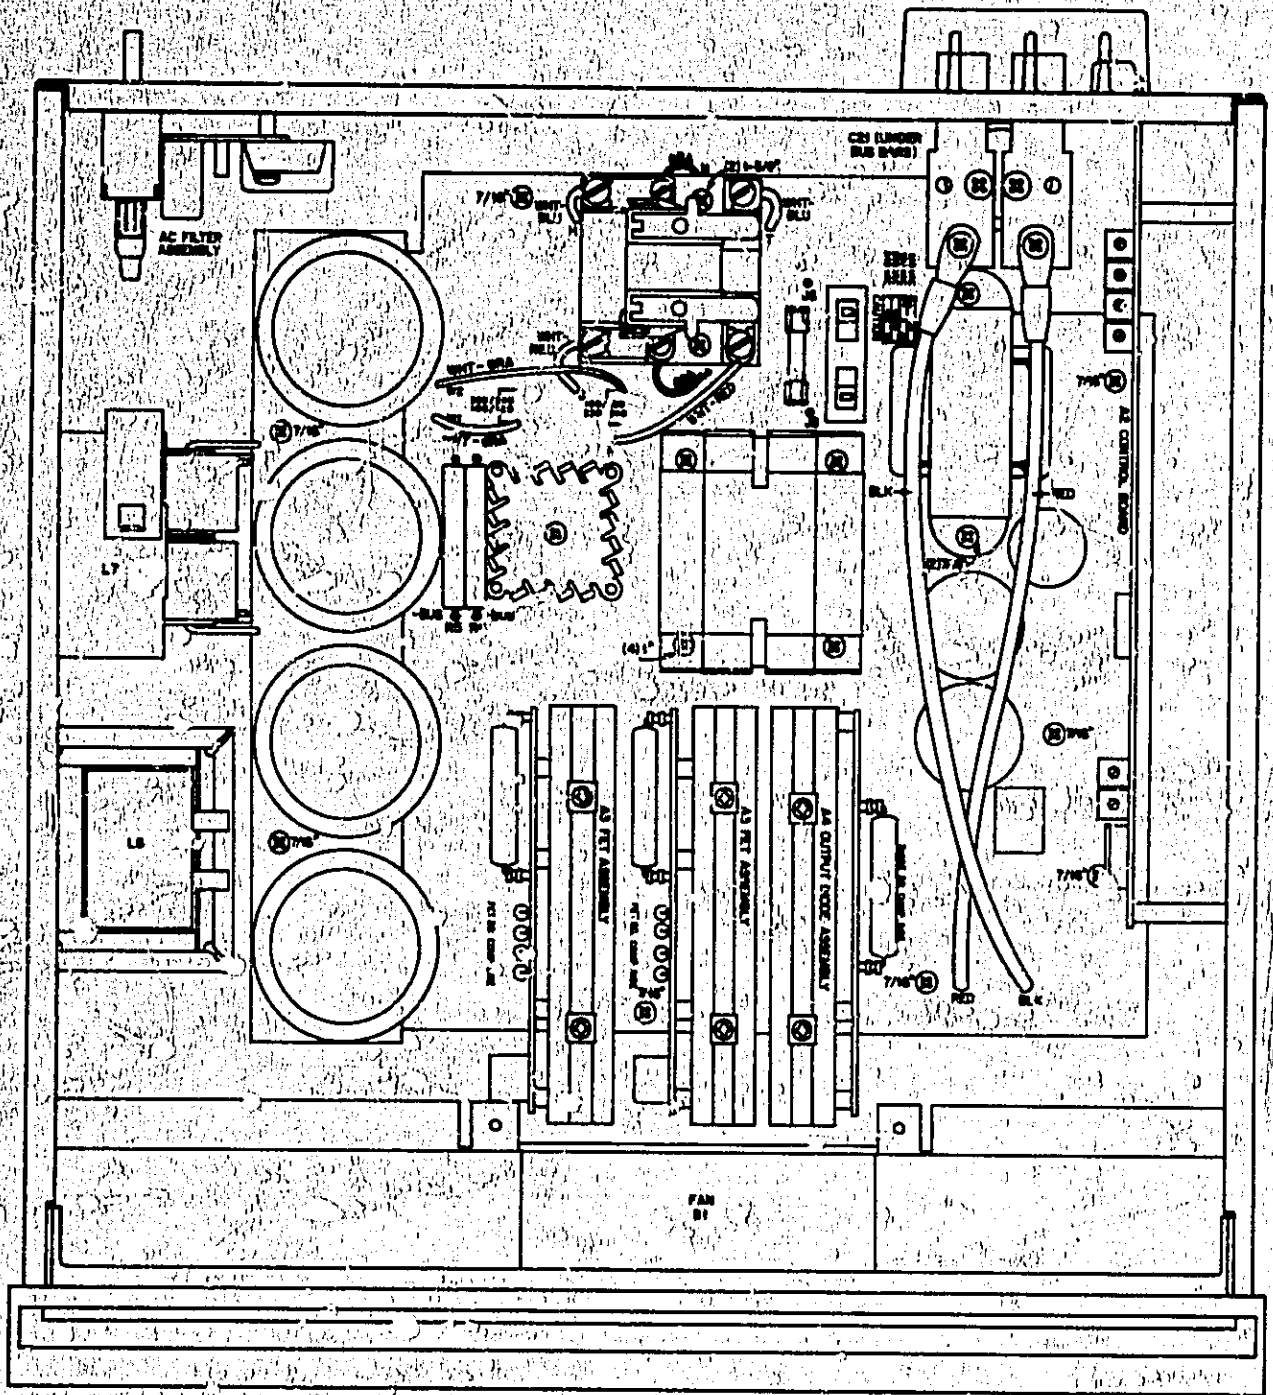

Figure 7-1. Top View, Top Cover and Heatsink Cover Removed.
a. Top view of unit with covers removed. (Figure 7-1), showing sub-assembly locations, chassis-mounted components, main board mounting screws, troubleshooting test points, and wire colors.